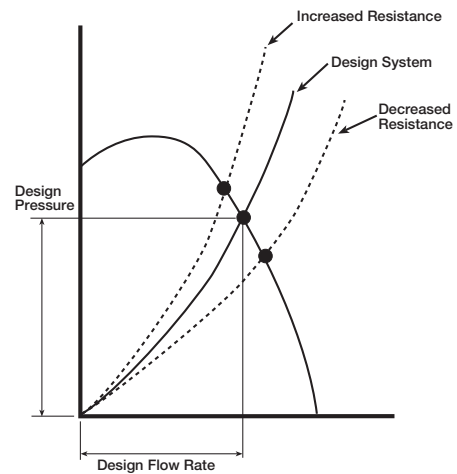

figure 5
**Figure 5** illustrates how the system resistance curve changes with a decrease or an increase in resistance. The new curve shows that as the system's resistance changes, so does the air volume the system pressure at a constant fan RPM.